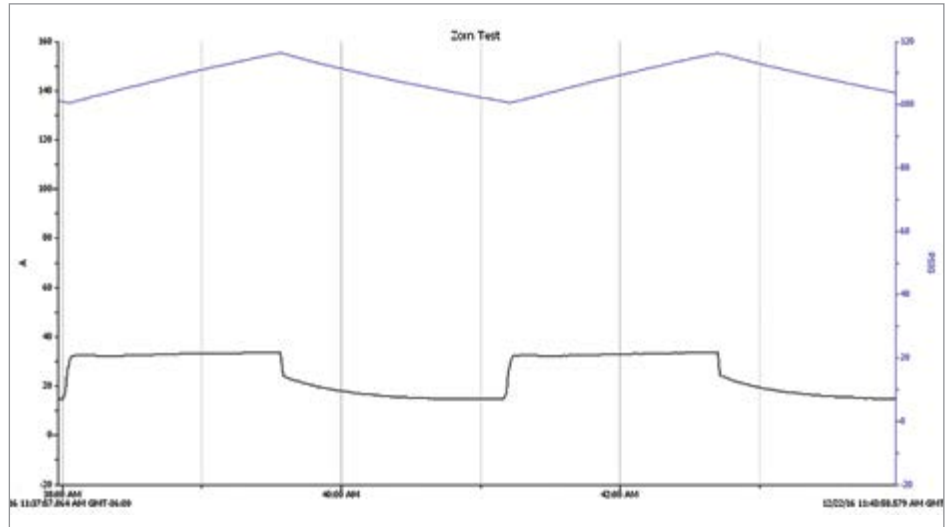

Figure 4, testing with two 400-gallon tanks
**Figure 4** shows the data logging graph with six minutes of data. Doubling the storage capacity resulted in a 50% reduction in duty cycle as the air compressor loaded and unloaded only twice. Additionally, the unloaded amp draw reached as low as 15 amps and calculated average power